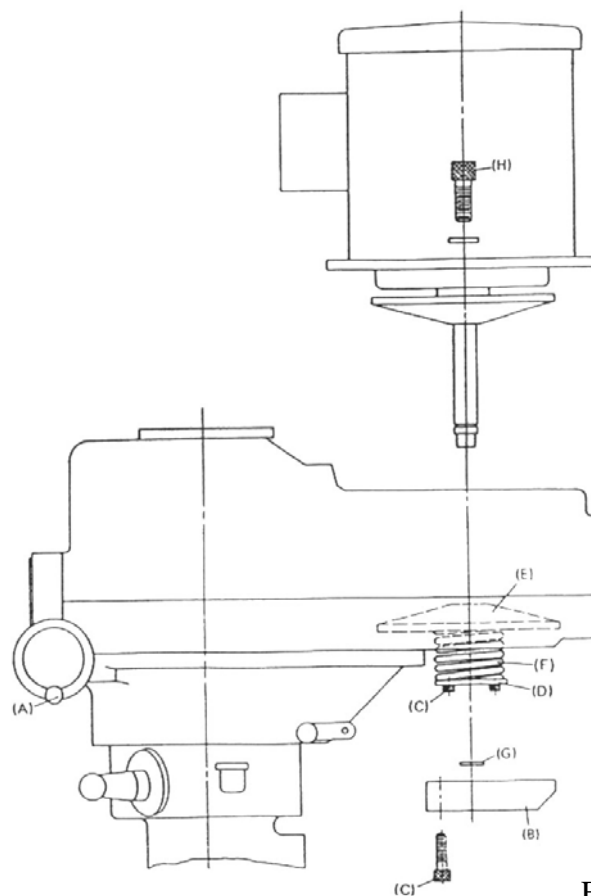

FIG9-1
9.1 DISMANTLING OF MOTOR (AS SHOWN IN FIGURE 9-1):MODEL: K2V
- a. Start the motor and turn the speed change hand wheel (A) to the position of 60 rpm appeared on the indicator to lower down the stationary motor vari-disc to the lowest position.
- c. Remove motor pulley cover (B) under the motor shaft. Then, use the two hexagonal concave bolts (C) that locked the bearing housing, to insert into the two holes of the speed change spring pieces (D). Lock into the motor vari-disc (E) and evenly lock up the two bolts (C). Push down the speed change spring (F) so as to separate it from the retainer ring (G).
- d. Take out the retainer ring (G).
- e. Take off the two hexagonal bolts (H) that locked the motor. The motor may be lifted up. Motor vari-disc (E) and speed change belt are still kept inside the belt housing.